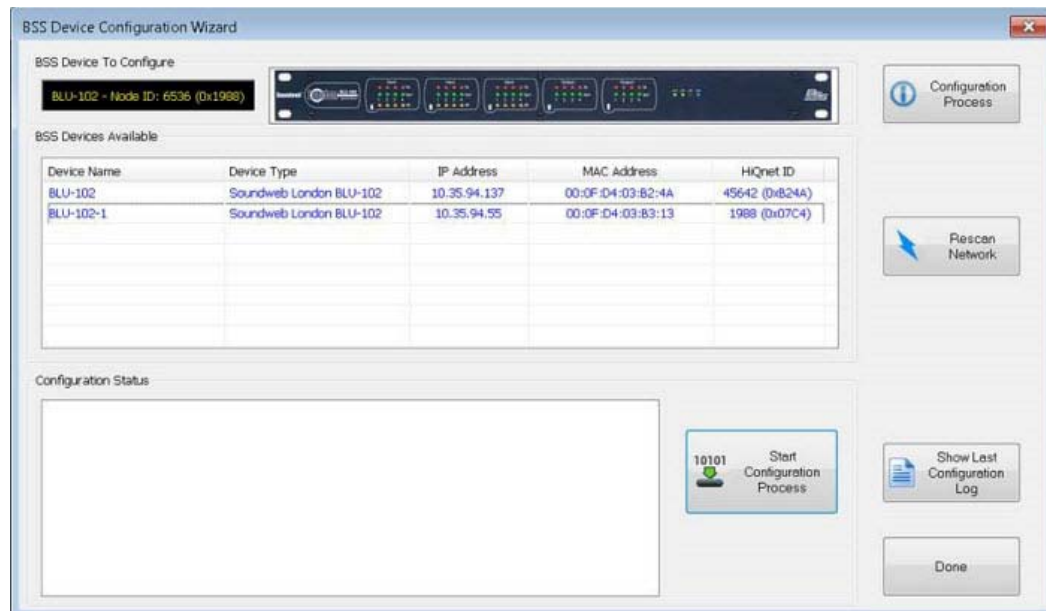

FIG. 72 BSS Configuration Wizard dialog
1. Select **BSS Configuration Wizard** to open the *BSS Device Configuration Wizard* dialog (FIG. 72):